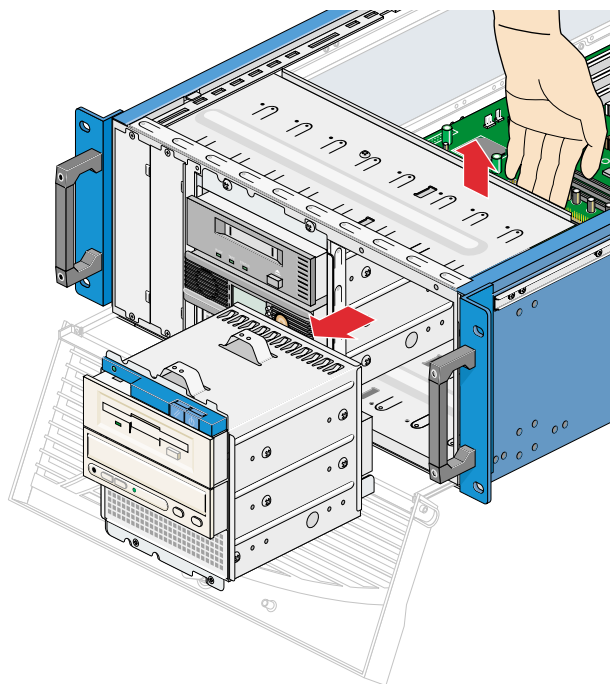

Figure 5-3 Removing the Drive Cage
10. Pull up on the chassis top panel slightly to free the drive cage from the clips on the top panel, and push the drive cage forward and out of the chassis, as shown in Figure 5-3.
4. Push the drive cage into the chassis. The drive cage clicks into place; clips at the top of the chassis hold it in place. See Figure 5-3 on page 72.